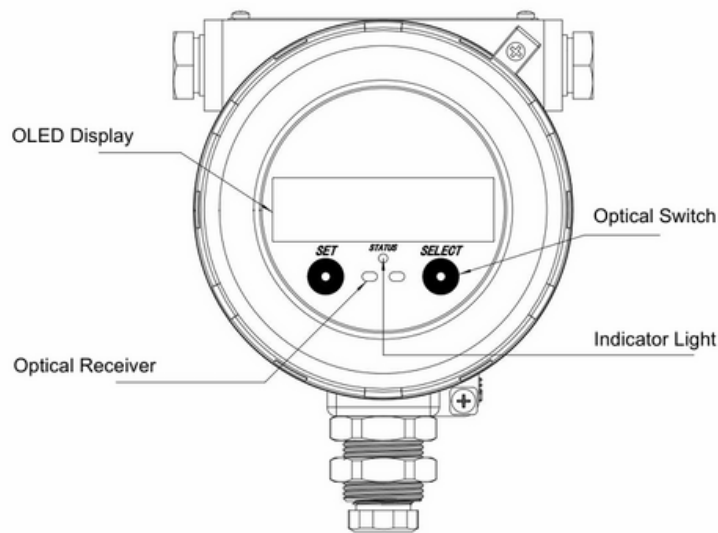

Figure 2
- A circular OLED display and three touch-free optical keys (e.g. SET, STATUS, SELECT) that allow full configuration and operation without opening the enclosure, as shown in Figure 2 and Figure 3.